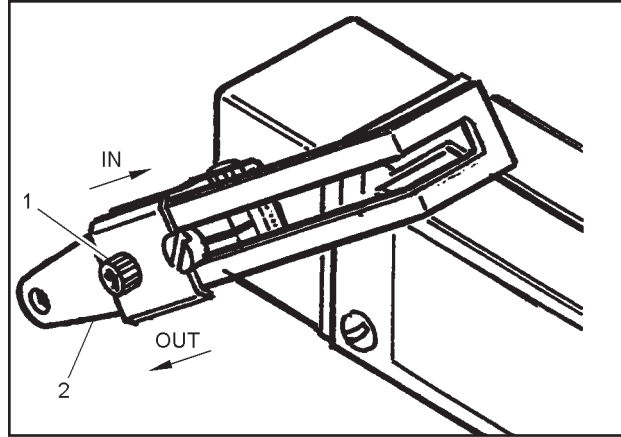

FIGURE 4-13. SETSCREW "B" LOCATION
5. If the lower flap travel does not fall into the lower limits, loosen setscrew "B" slightly (Figure 4-13, item 1) on the actuator arm (item 2).